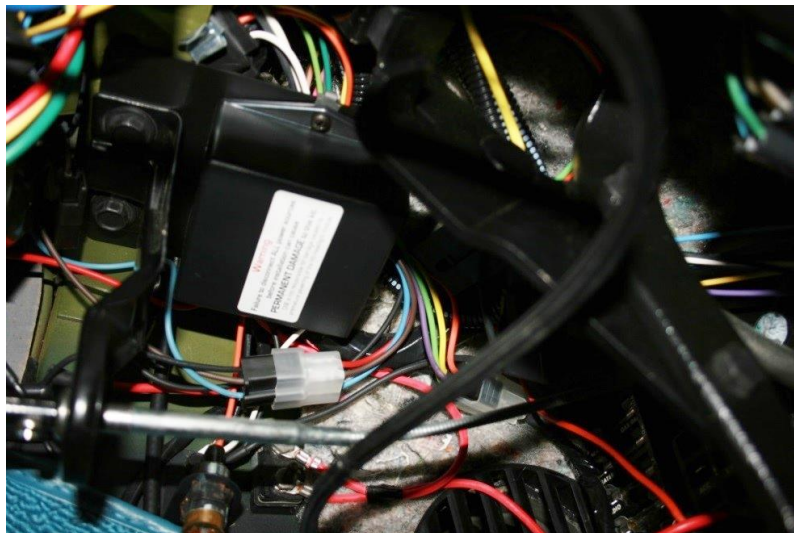

Figure 13 - Mount Control Module
28. Install the headlight door control module mounting bracket under the hood release cable bracket and reinstall the bolts (Figure 13). If the hood release cable is not mounted through these holes, use the included 5/16"-18 x 3/4"L" Flange Head Hex Cap Screws to mount the module in the position.